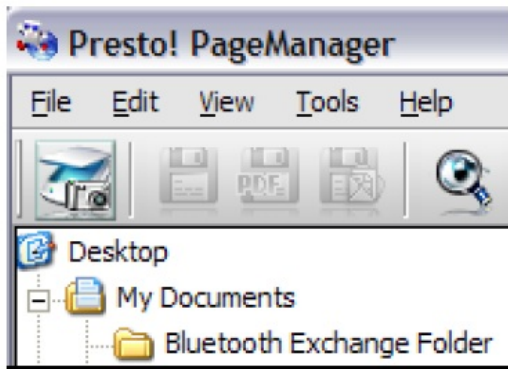

Fig. 1
- To calibrate your scanner select the acquire image data icon (scanner and camera icon) under the toolbar menu. (see Fig. 1)